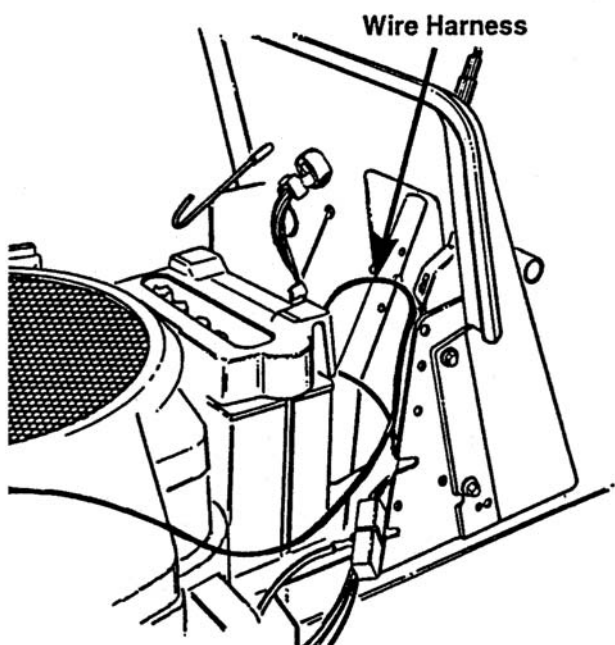

Figure 4-52.
2. Peel tape back on the wire harness until you expose approximately 4 inches of the wires. See figure 4-52.